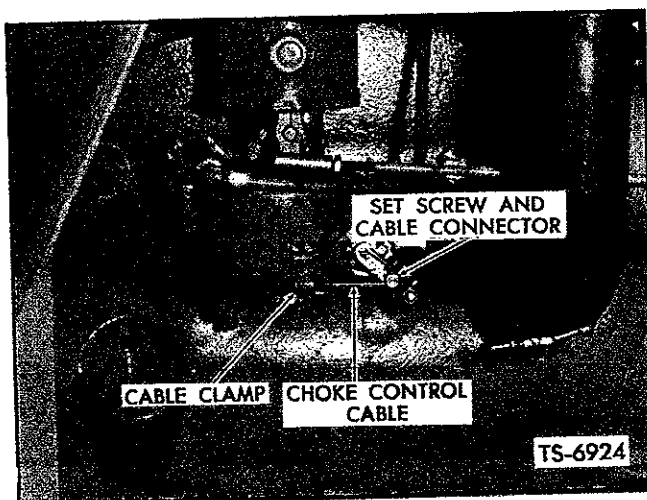

Fig. 20. Adjust Choke Control — Waukesha Gas
4. Adjust cable tension as necessary at choke lever on carburetor by loosening cable clamp and set screw from cable connector and increasing cable tension as necessary. Resecure cable in cable connector by retightening set screw and cable clamp. See Figure 20.